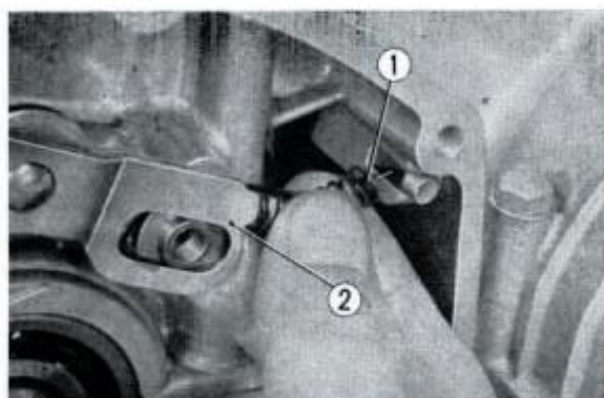

Fig. 131 ① Spring ② Shift drum stopper
7. Insert the spring into the shift drum stopper, install the end of the spring into the crankcase groove as shown in Fig. 131, and tighten the shift drum stopper bolt. After tightening the bolt, make sure that the shift drum stopper operates smoothly. If there is excessive vertical looseness the shift drum stopper should be replaced.